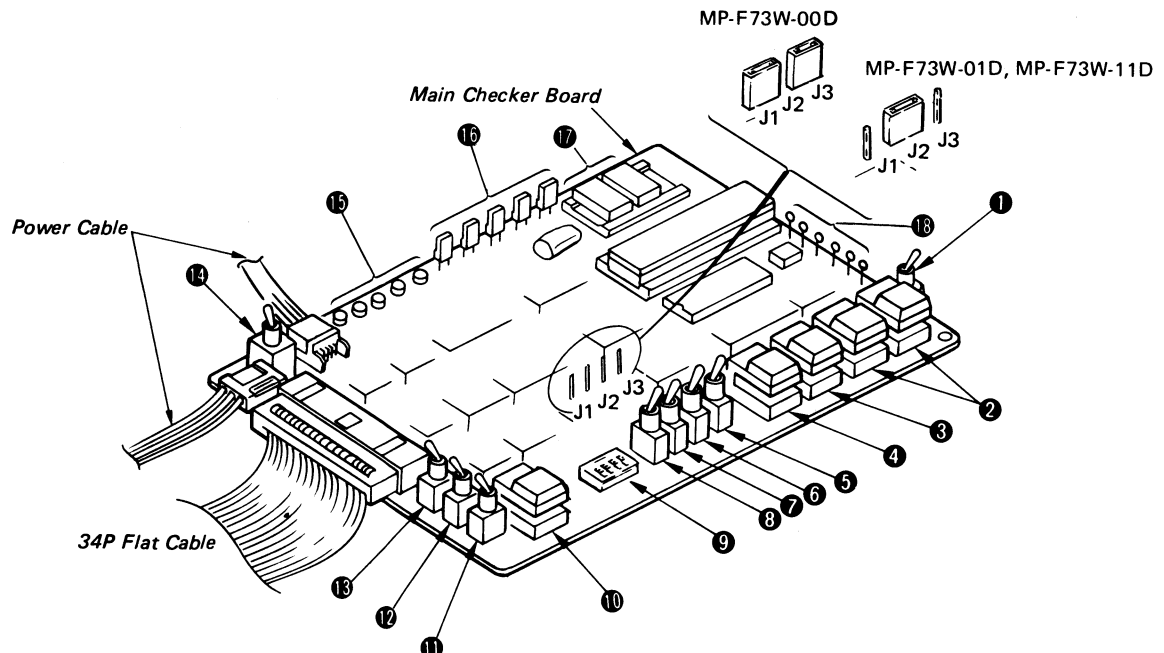

Fig. 2-1 MFD Function Checker Configuration
(1) MFD Function Checker configuration (Refer to Fig.2-1)